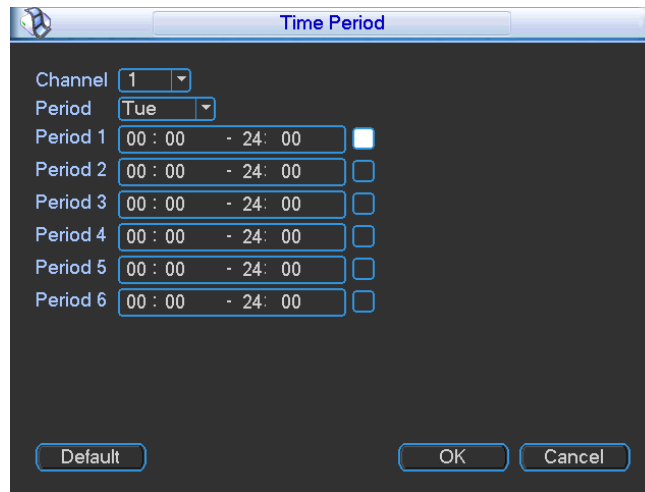

Figure 4-43
- ✧ Schedule: Click it; you can see an interface shown as in Figure 4-43. Here you can set snapshot period.